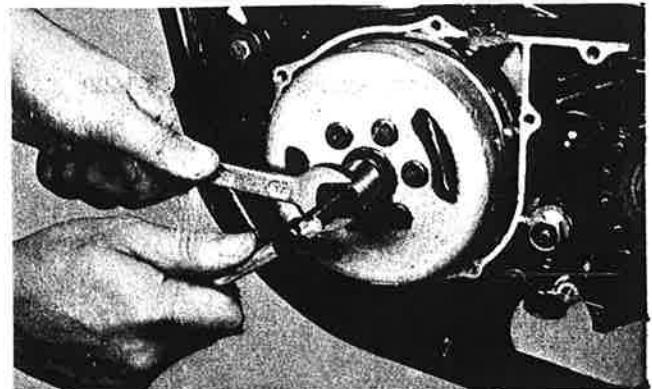

Fig. 3-1-18
4. While holding puller body, tighten push bolt. This will pull flywheel off the tapered end of the crankshaft. (Fig. 3-1-18)